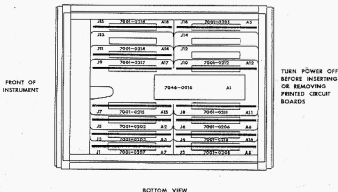

Figure 5-1. Circuit Board Location.
- 5.05 Figure 5-1 shows the location of the circuit boards in the bottom of the instrument. The same drawing is screened on the inside of the bottom